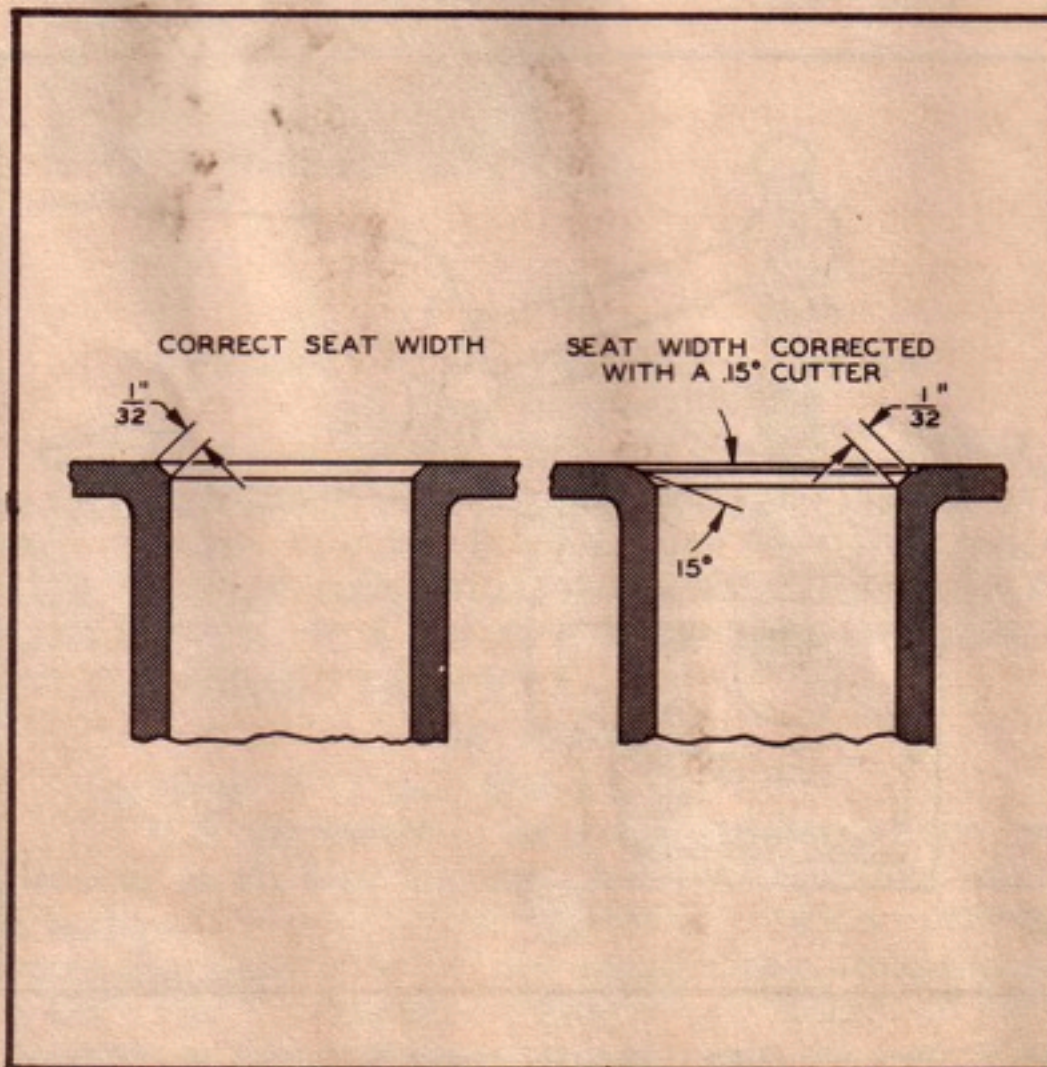

Figure C-16. Valve Seat Reconditioning
ceding instructions. (See figure C-16.)
e. Measure the width of each valve seat, which should be approximately $1/32$ inch. If the valve seats are more than $1/32$ inch in width, use a 15-degree seat cutter in the same manner as the 45-degree seat cutter to narrow the seat to within limits, which should average between $1/32$ and $1/16$ inch. (See figure C-16.)